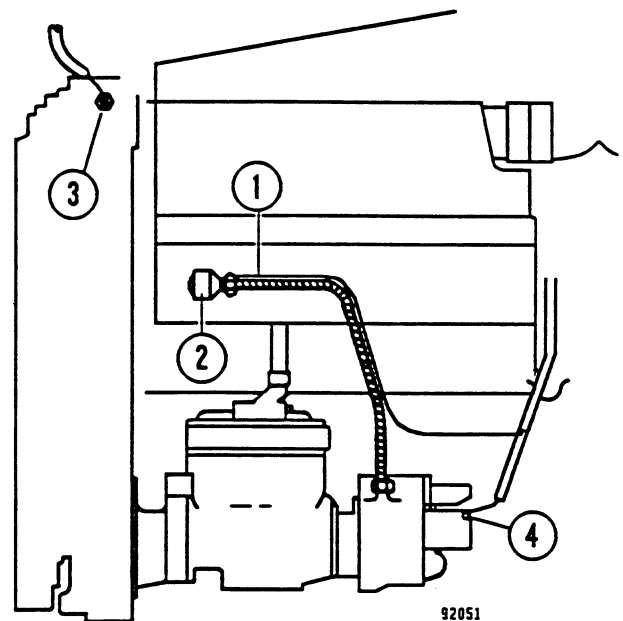

FIGURE 4-1. ENGINE ELECTRICAL CONNECTIONS
10. Disconnect the electrical leads (1, Figure 4-1) from the tachometer drive generator (2), fuel pump solenoid (4) and tie leads away from engine compartment.
11. Remove coolant temperature bulb (3) from engine and coil capillary tube to prevent kinking. Do not cut tubing. Secure tubing away from center deck and engine compartment.